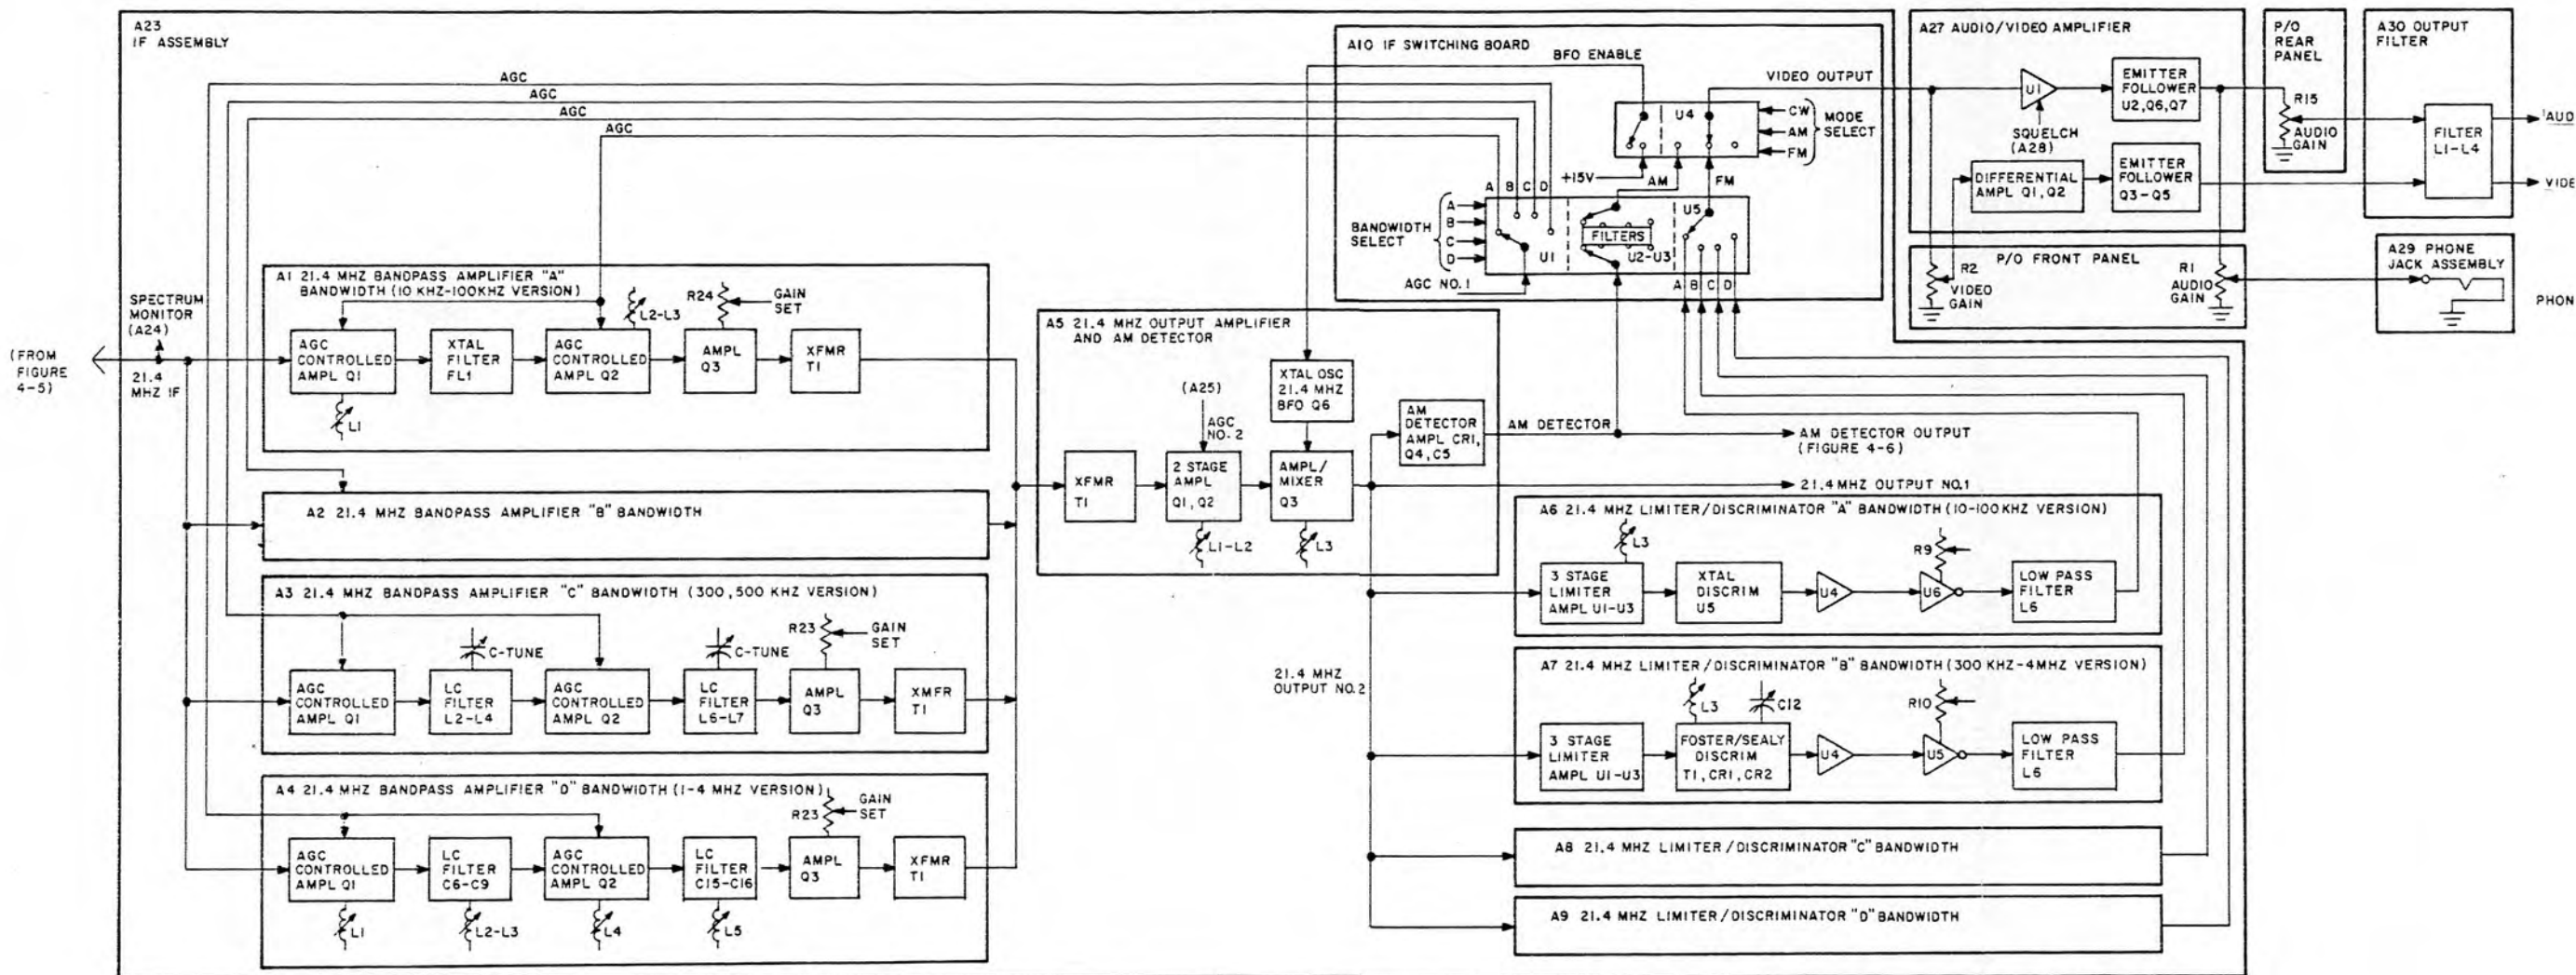

Figure 4-7. IF Amplifier Section Functional Block Diagram
e. IF Section. The IF section (figure 4-7) is composed of A23 IF assembly, A27 audio/video amplifier, A29 phone jack assembly, and A30 output filter.